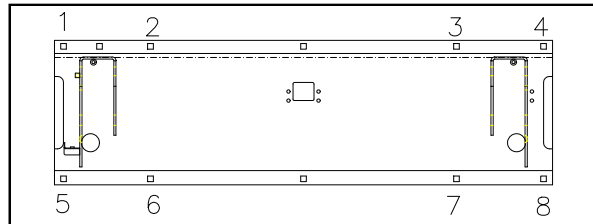

FIGURE 2-8: BUS BASEPLATE HOLES
- i. Refer to **Figure 2-8**. Mark and drill eight 25/64" baseplate assembly mounting holes (1 thru 8) through vehicle floor.